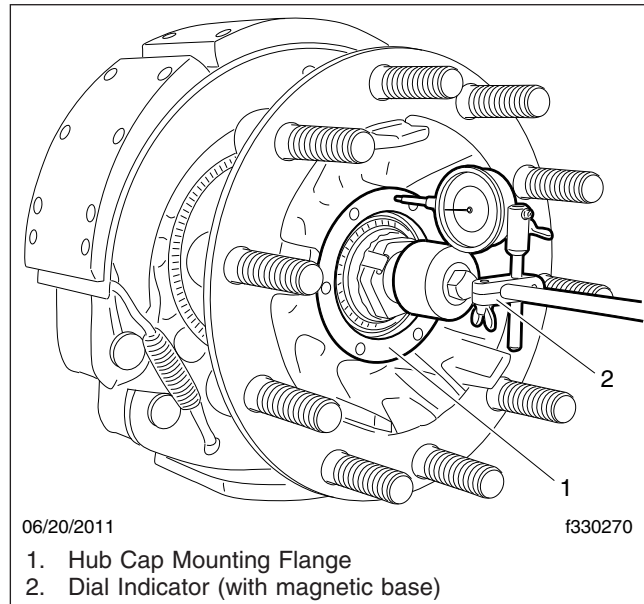

Fig. 11, Dial Indicator Setup
- 11.1 Attach the magnetic base of a dial indicator to the end of the spindle, and place the measuring end of the indicator against the hub cap mounting flange. See Fig. 11.